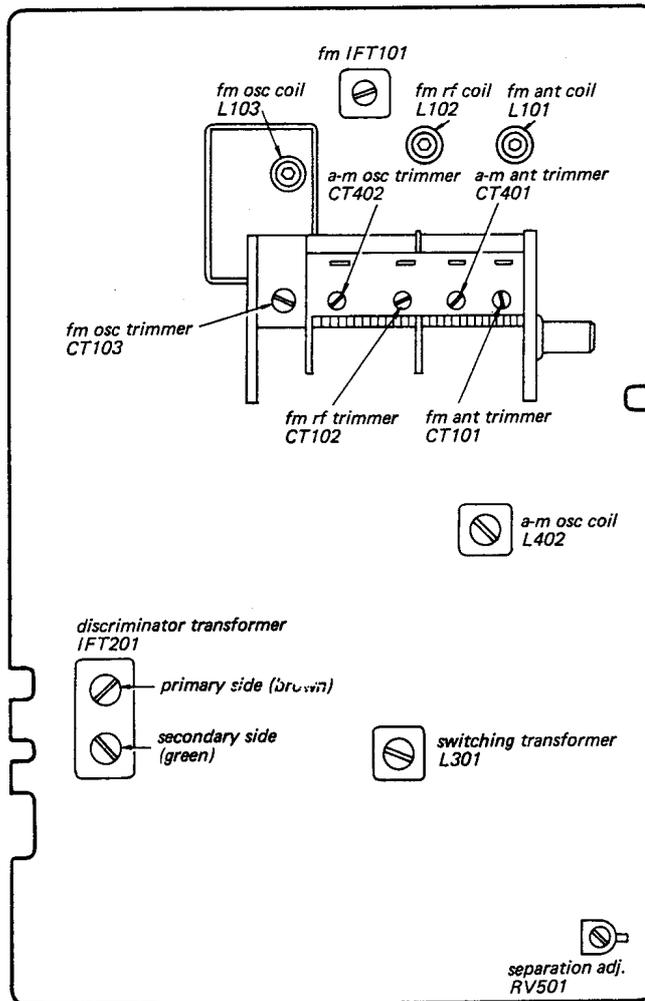

Fig. 3-10. Adjustment parts location
5. Turn the secondary side core (green) of discriminator transformer IFT201 (see Fig. 3-10) with an alignment tool to obtain a minimum indication on the oscilloscope as shown in Fig. 3-6.
7. Turn the core of fm IFT101 and primary side core (brown) of discriminator transformer IFT201 (see Fig. 3-10) to obtain the maximum output.
1. Precisely tune the set to the carrier frequency of stereo signal generator, then turn the top core of switching transformer L301 (see Fig. 3-10) to obtain maximum output at the left channel. Note that this adjustment has a close relationship with stereo distortion.
4. The output-level to residual-level ratio represents the separation. Adjust separation adj. control RV501 (see Fig. 3-10) for minimum residual level. Check the right channel for separation. Usually, about an 8 to 9 dB difference in channel separation exists. Readjust RV501 for minimum difference between left- and right-channel separation. While